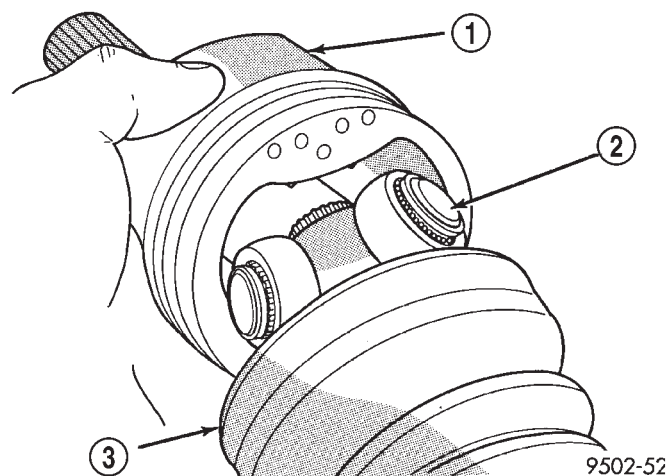
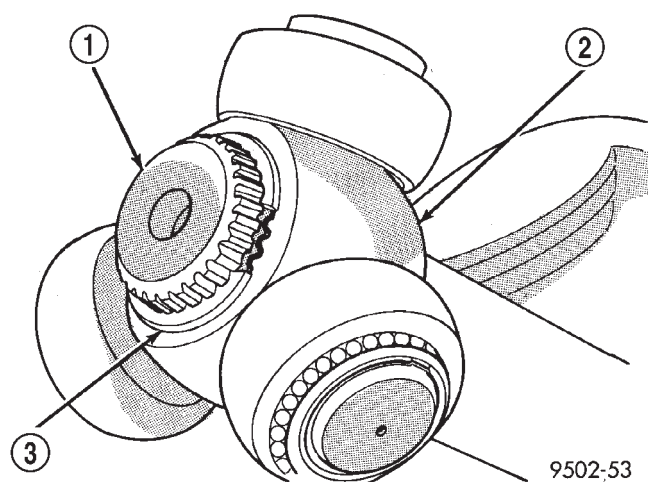

Fig. 33 Installing Tripod Housing on Spider Assembly
Fig. 32 Spider Assembly Retaining Snap Ring Installed
(3) Install the spider assembly to interconnecting shaft retaining snap ring into groove on end of interconnecting shaft (Fig. 32). Be sure the snap ring is fully seated into groove on interconnecting shaft.
(4) Distribute 1/2 the amount of grease provided in the seal boot service package (**DO NOT USE ANY OTHER TYPE OF GREASE**) into tripod housing. Put the remaining amount into the sealing boot.
(5) Align tripod housing with spider assembly and then slide tripod housing over spider assembly and interconnecting shaft (Fig. 33).